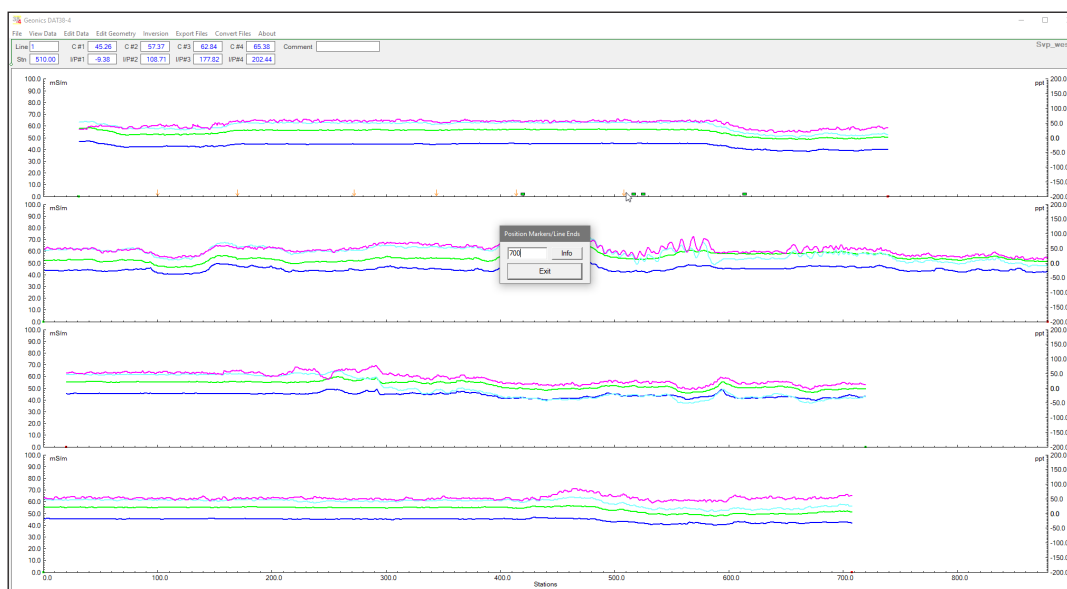
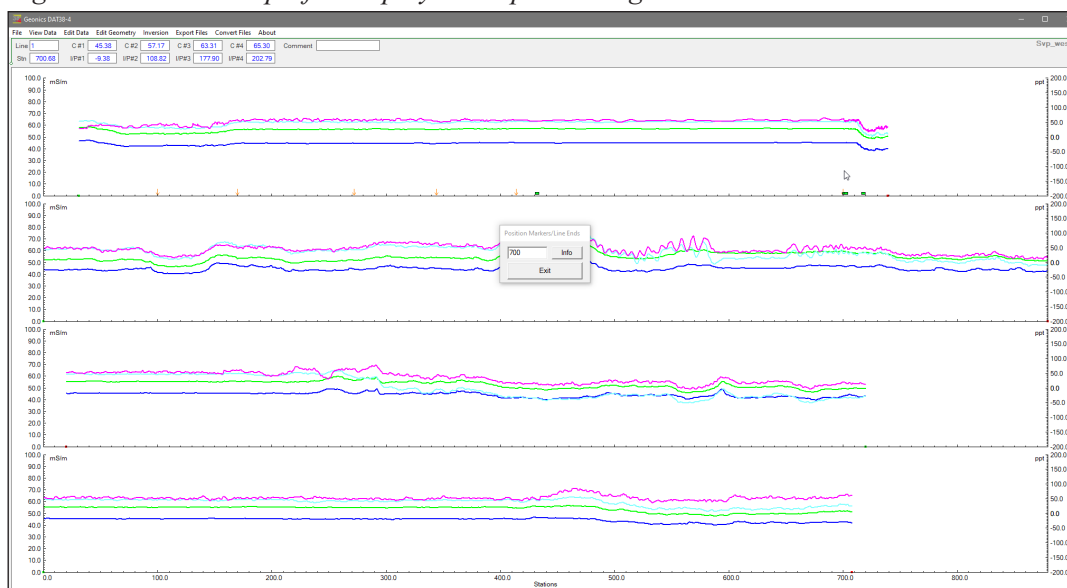

Figure 5.10 DAT38-4 profile display while positioning cursor at Marker to be moved
Figure 5.11 DAT38-4 profile display after the Marker is repositioned to station 700
- For instance, Figure 5.10 shows the mouse cursor near a marker at station close to 500; after entering a new value of 700 and clicking, the marker immediately moves to station 700 (see Figure 5.11).